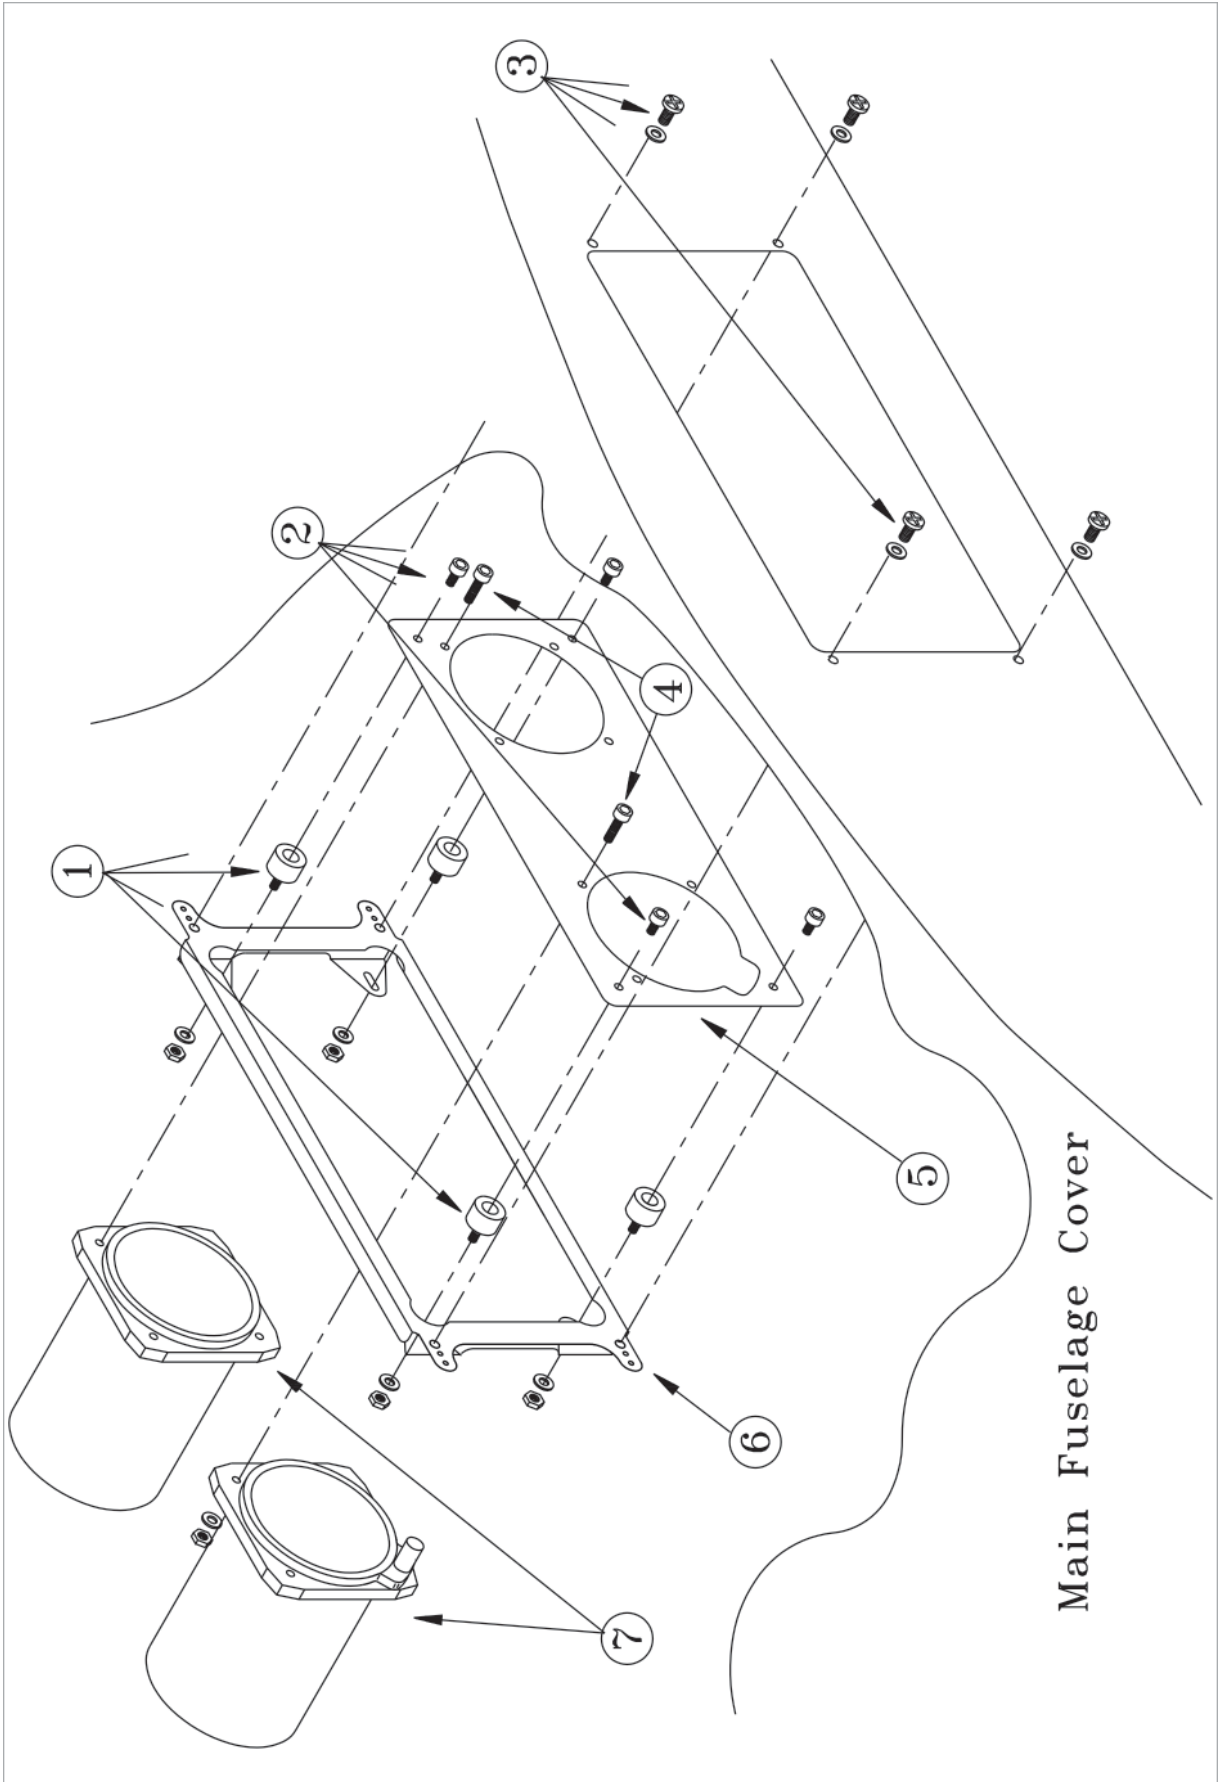

Figure 5
- 1 Remove DIN 912 M4x5 bolts (2, Figure 5) and shock mounts (1) with LN 9348 M4 stop nuts.
- 3 Disconnect the Pitot resp. static lines from the instruments (7). Mark lines for later identification.
- 4 Remove instrument panel (5).
- 2 Remove the AN526 C-1032-R6 frame attachment screws (3, Figure 5).
- 3 Remove the front instrument panel frame (6).